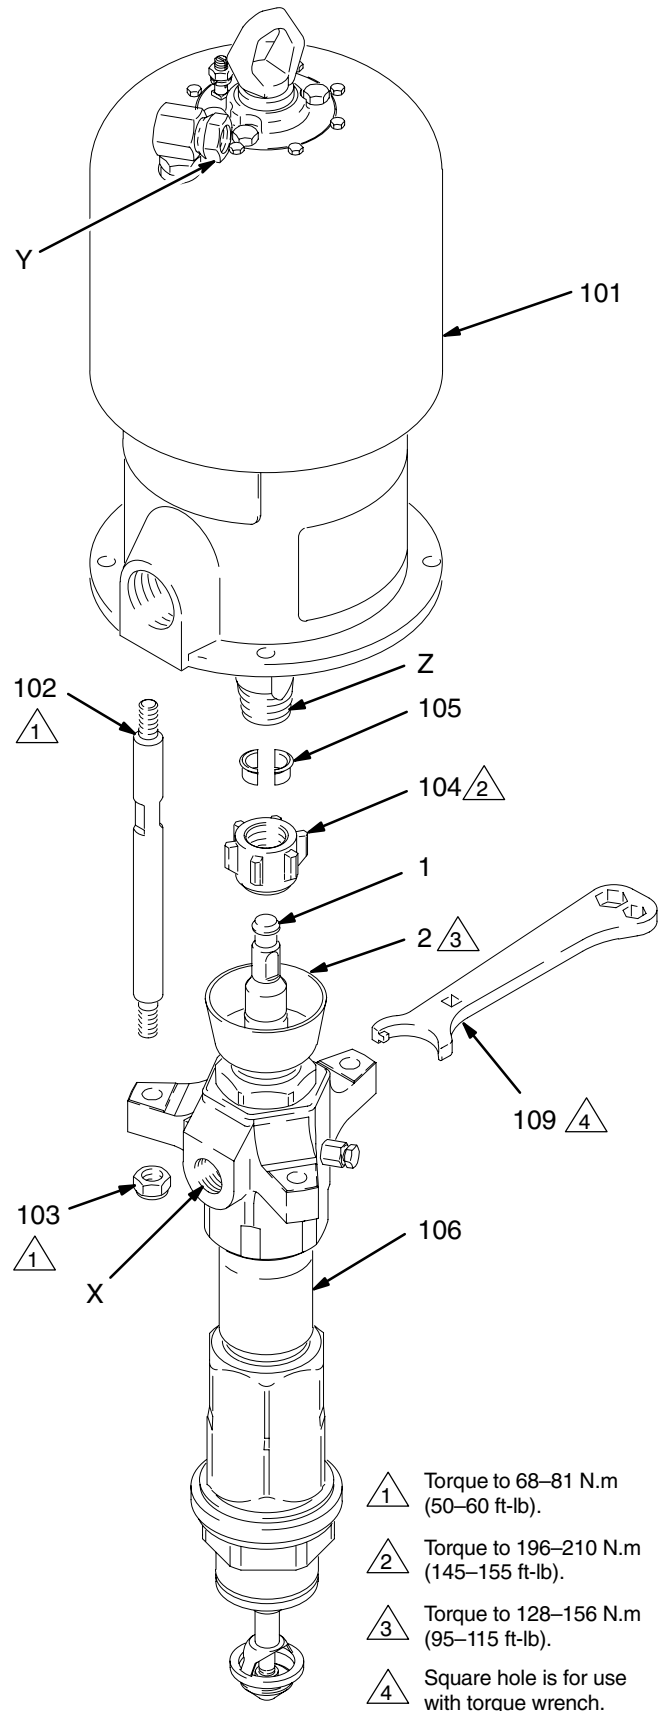

Fig. 6
4. Disconnect the displacement pump (106) from the motor (101) as follows. See Fig. 6. Be sure to note the relative position of the pump's fluid outlet (X) to the motor inlet (Y). If the motor does not require servicing, leave it attached to its mounting.
5. Using an adjustable wrench (or a hammer and rod), unscrew the coupling nut (104) from the motor shaft (Z). Do not lose or drop the coupling collars (105). See Fig. 6.
6. Hold the tie rod flats with a wrench to keep the rods from turning. Unscrew the nuts (103) from the tie rods (102). Carefully remove the displacement pump (106) from the motor (101).
1. Make sure the coupling nut (104) and the coupling collars (105) are in place on the displacement rod (1). See Fig. 6.
2. Use at least two people to hold the displacement pump while another reconnects it to the motor (see the **CAUTION** on page 18). Orient the pump's fluid outlet (X) to the air or hydraulic inlet (Y) as was noted in step 4 under **Disconnecting the Displacement Pump**. Position the displacement pump (106) on the tie rods (102).
3. Screw the nuts (103) onto the tie rods (102) and torque to 68–81 N.m (50–60 ft-lb).
4. Screw the coupling nut onto the motor shaft loosely. Hold the motor shaft (Z) flats with a wrench to keep it from turning. Use an adjustable wrench to tighten the coupling nut. Torque to 196–210 N.m (145–155 ft-lb).
5. Torque the packing nut (2) to 128–156 N.m (95–115 ft-lb).
6. Reconnect all hoses. Reconnect the ground wire if it was disconnected. Fill the wet-cup (2) 1/3 full of Graco Throat Seal Liquid or compatible solvent.